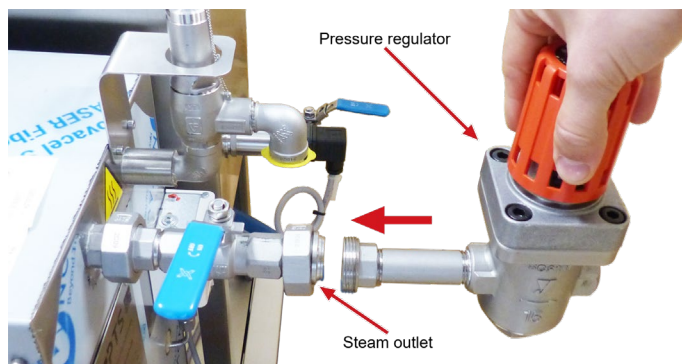

Fig. 1 Pressure regulator installation position
2. Take the pressure regulator out of its packaging and connect it to the steam outlet of the steam generator as shown in the picture below (Fig. 1) using an appropriately sized open-end wrench.